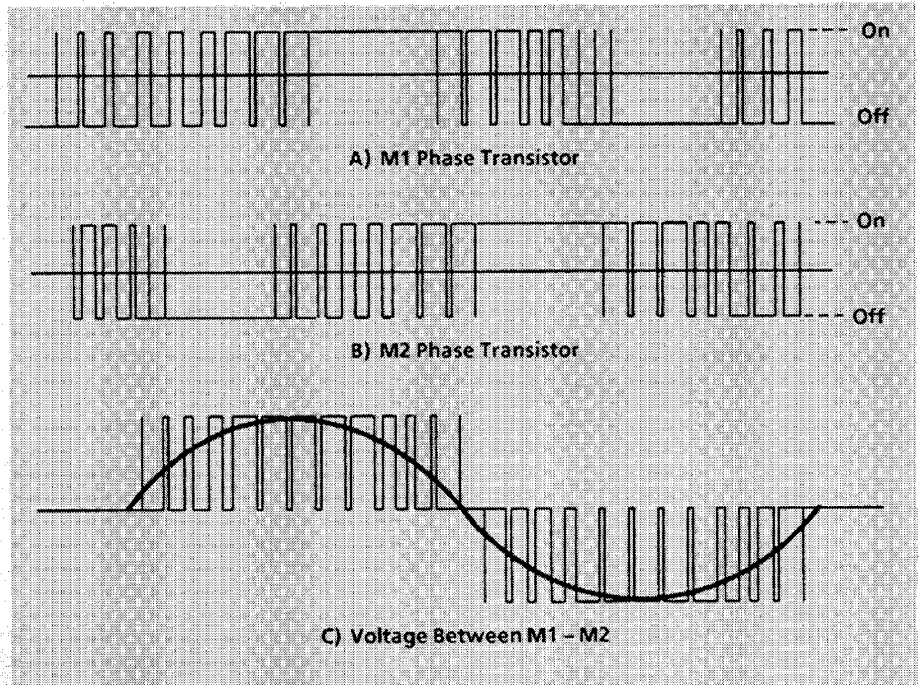

Figure 5-3. Inverter Section Output Waveforms
2. Generates commands (pulses) which are fed to the Base Driver which in turn generates the required output frequency and voltage as shown in Figure 5-3.